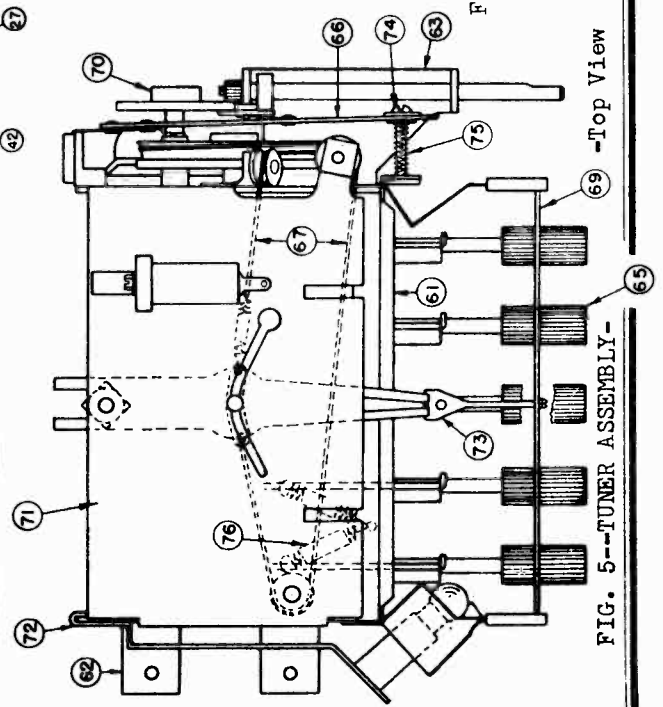

FIG. 5--TUNER ASSEMBLY--Top View
9. Place the long cord behind the pointer and over pulleys (Fig. 5 & 6). Hook the cord eyelet over the drive pulley hook nearest the back of the tuner and push the cord into position around the pulley rim.